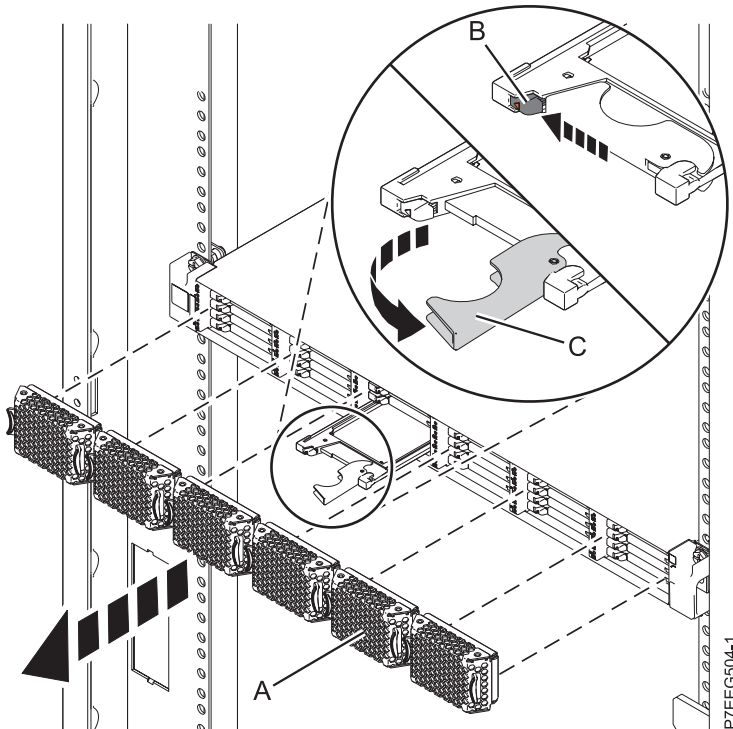

Figure 38. Removing the solid-state drive from the EDR1 PCIe storage enclosure
4. When the solid-state drive identify LED turns on solid, slide the release latch (B) over gently to unlock the drive handle. See Figure 38 on page 56.
5. Grasp the handle (C) and pull the drive partially out of the slot.